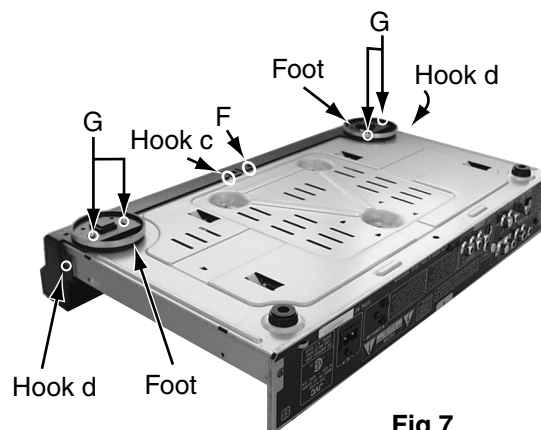

Fig.7
■ Removing the front panel assembly (see Fig.7,8)